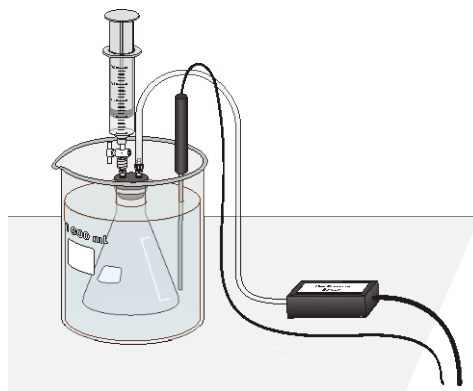

Figure 1
6. Use the clear tubing to connect the white rubber stopper to the Gas Pressure Sensor. (About one-half turn of the fittings will secure the tubing tightly.) Twist the white stopper snugly into the neck of the Erlenmeyer flask to avoid losing any of the hydrogen gas that will be produced in the reaction (see Figure 1). **Important:** Close the valve on the white stopper by turning the handle so it is perpendicular to the valve stem.
7. Obtain a small amount of 1.0 M hydrochloric acid. **CAUTION:** *Handle the hydrochloric acid with care. It can cause painful burns if it comes in contact with the skin.* Draw 5 mL of HCl solution into the 20 mL syringe. Thread the syringe onto the two-way valve on the white stopper (see Figure 1). Submerge the Erlenmeyer flask into the water bath. Position the Temperature Probe in the water bath so that the tip of the probe is not touching the beaker.